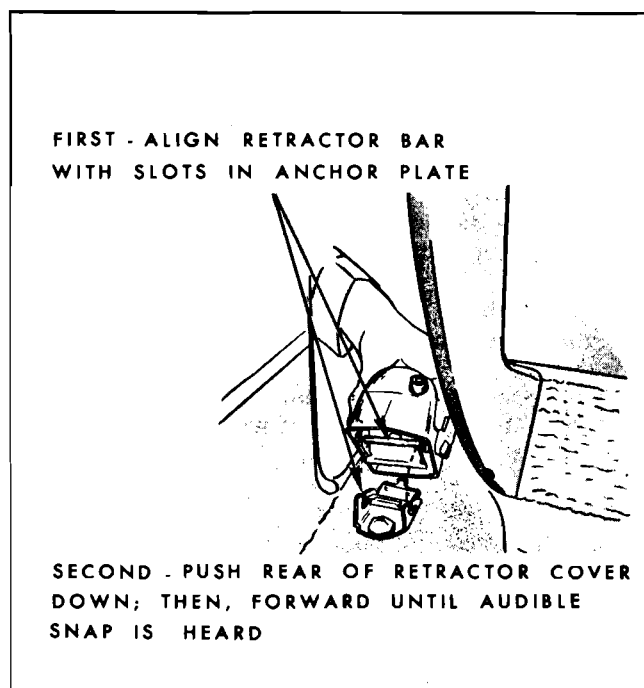

Fig. 15-97—Front Seat Belt Self-Locking Retractor - Installation
2. Position retractor and cover assembly over anchor plate assembly so that bar in retractor is aligned with slots in anchor plate (See Figure 15-97). Push rear of retractor assembly down and then forward to lock retractor to anchor plate.